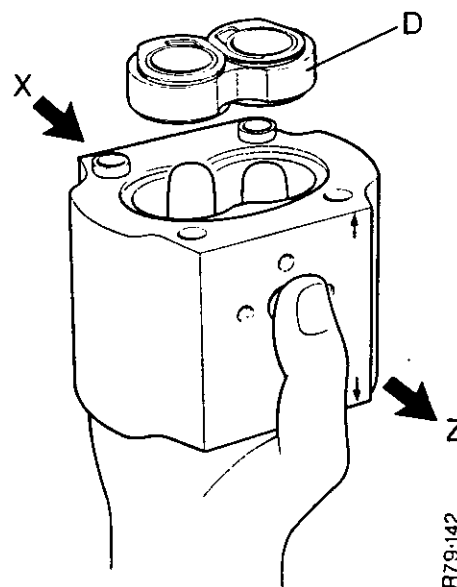

FIGURE 22. FITTING THE BEARINGS
4. Hold the body of the pump vertically in one hand so that the flange end is at the top (see Figure 22). Put your fingers inside the pump body. Use them as supports for the bearings. Pick up the bearing assembly with the other hand and carefully slide it into the pump body. The seal must be facing upwards with the lobe to the inlet side. If you are using the original bearings, check the position with the marks on the bearings. There must be no restriction when you put the bearing in the pump body.